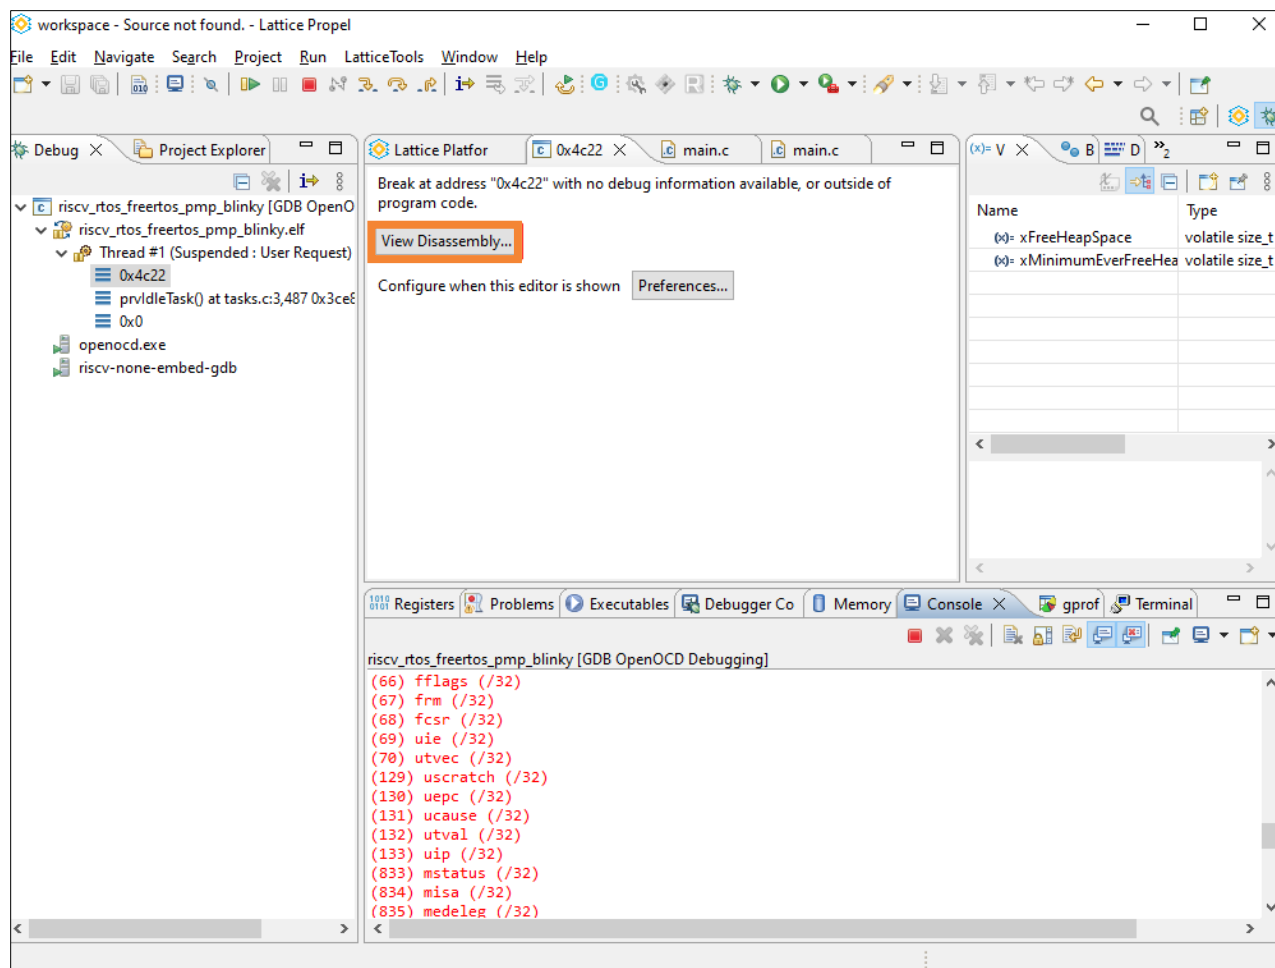

Figure E.3. Debug Perspective 2
4. Wait for a few seconds for switching to the debug perspective, as shown in Figure E.3. Click **View Disassembly** to display assembly code or C code.